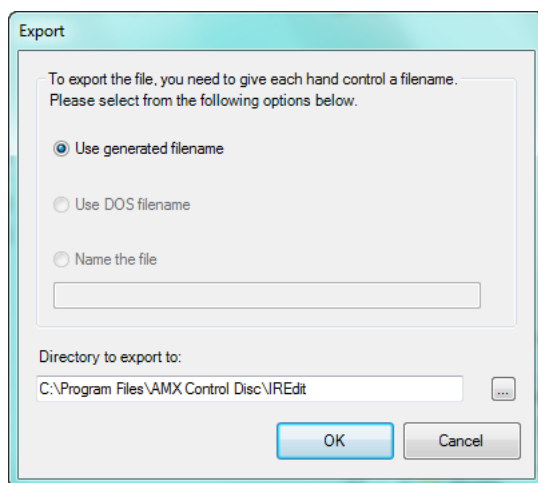

FIG. 35 Export dialog
2. Select **File Menu > Export IR File(s)...** to open the *Export* dialog (FIG. 35): .